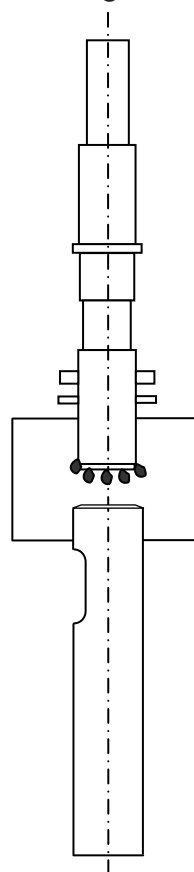

Figure 18
- Remove the tool, push the piston (with a tube) as high as possible, grease abundantly, and reinstall the tool. See Figure 18.